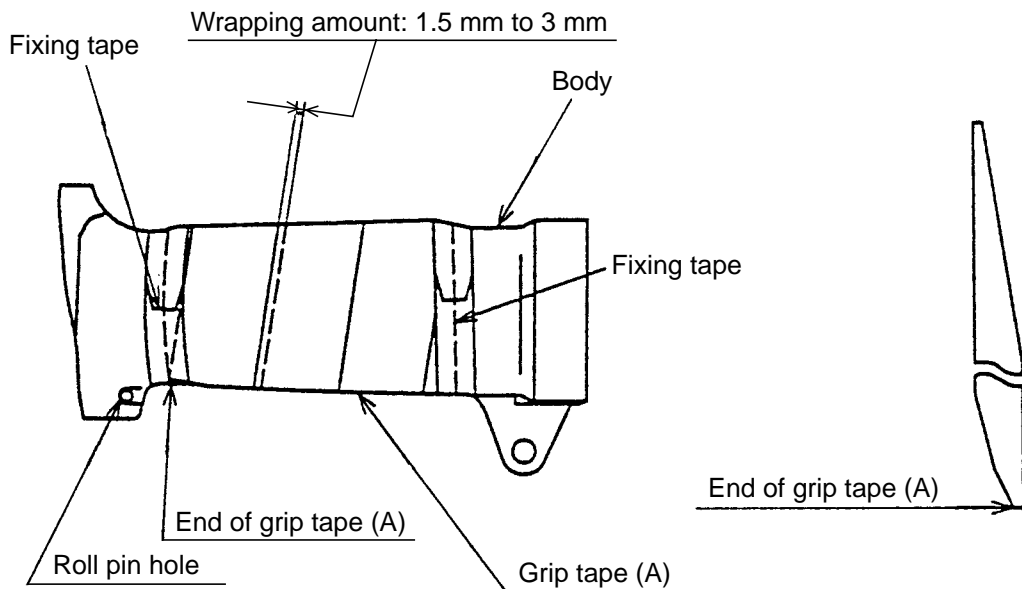

Fig. 27
- Grip tape (A): Code No. 881768
Grip tape (A) and the fixing tape are adhesive-backed. Start wrapping grip tape (A) near the roll pin hole of the body and wrap around the body completely. After wrapping, fix grip tape (A) with the fixing tape at both ends of wrapping (Fig. 27). Note that grip tape (A) and fixing tape cannot be removed once they are adhered.